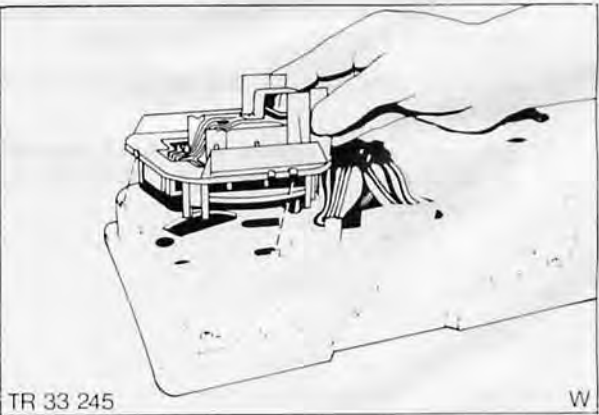

Fig. 68. Aligning instrument housing to main cluster body
5. Position gauge in its housing and secure with two washers and nuts, Fig. 68.